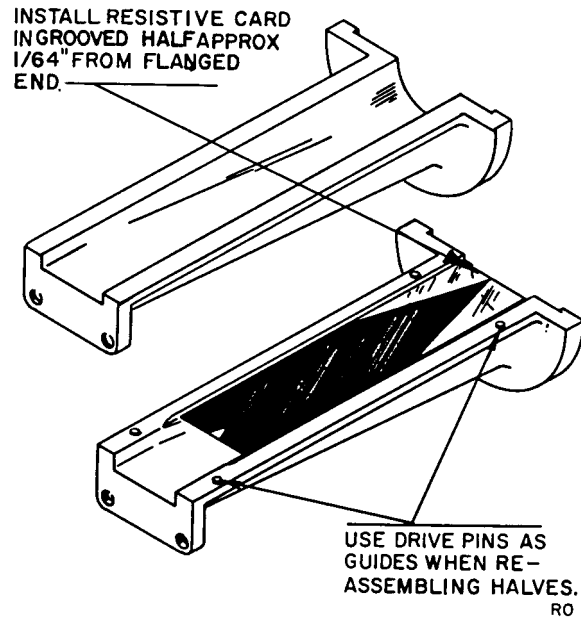

Figure 12 *Installation of Resistive Card in End Section*
2. Drive locator pins from end section (see Figure 12).
6. Install end card with emulsion (deposited) side up in recessed half of the end section as shown in Figure 12.